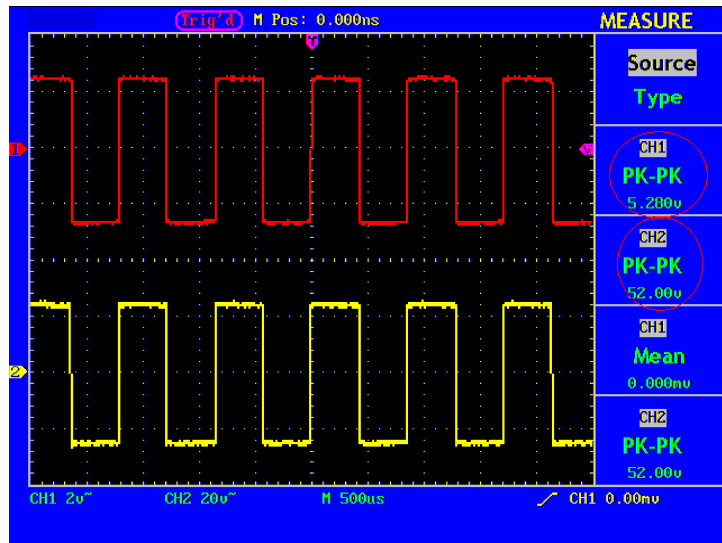

Fig. 105 Wave Form of Gain Measurement
9. Read the peak-to-peak values of Channel 1 and Channel 2 from the displayed menu (see Fig. 105).